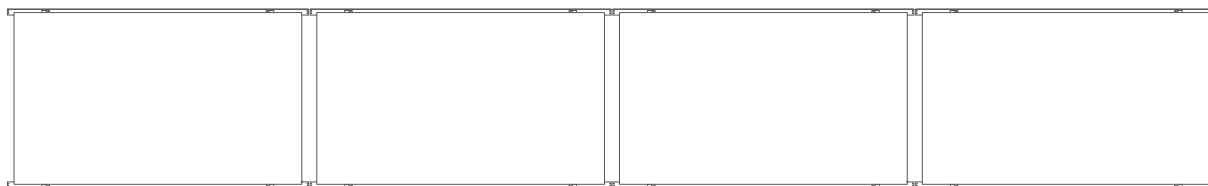
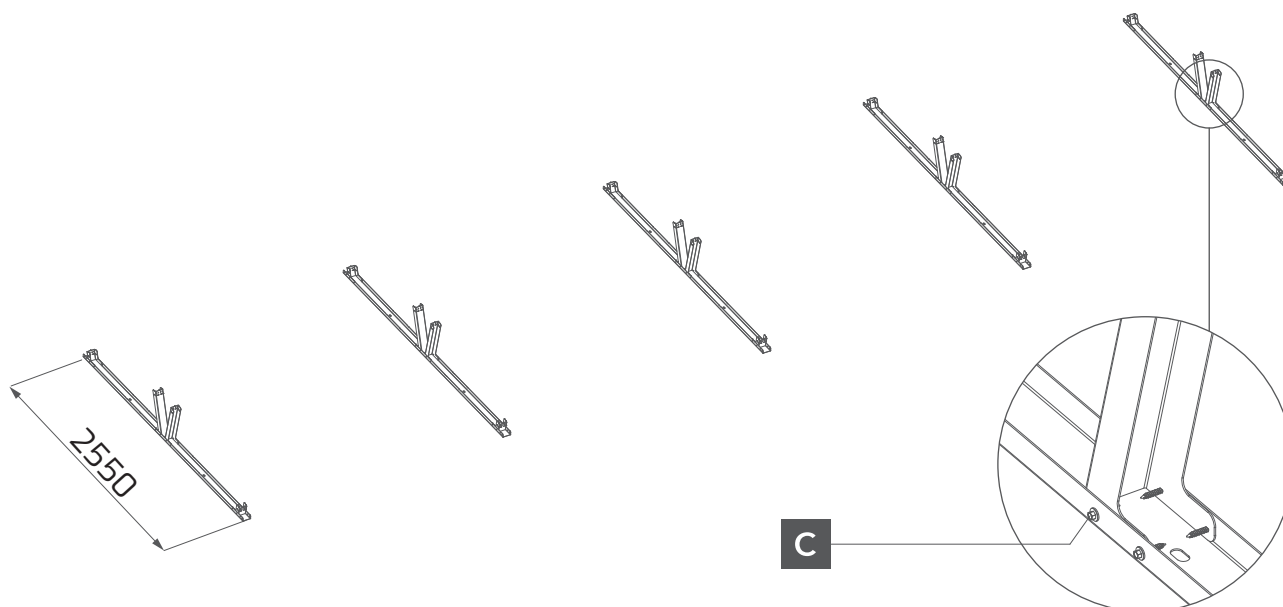

Fig. 1 Modular structure plan
Fig. 2 Arrangement of the mounting triangles
- 1 Before installation, the layout plan for the modules (Fig. 1) and the mounting triangles (Fig. 2) must be determined. The way of fixing the mounting structure to the roof slab depends on the type of roof slab and is chosen individually.